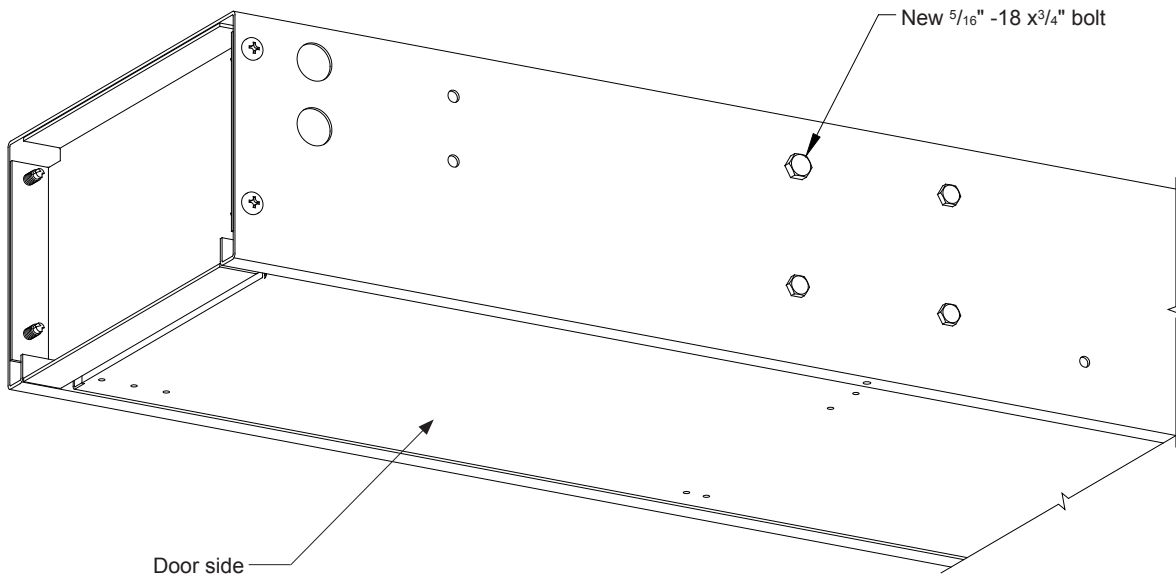

Figure 2
- 4) Install the $\frac{5}{16}$ " - 18 x $\frac{3}{4}$ " bolts and $\frac{5}{16}$ " Keps nut (provided) into the hole where the $\frac{1}{4}$ " - 20 x $\frac{3}{4}$ " bolt was removed from the lower bulkhead. **See Figure 2.**